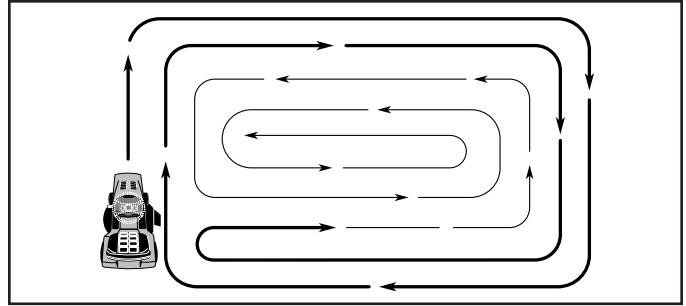

FIG. 20
- When mowing large areas, start by turning to the right so that clippings will discharge away from shrubs, fences, driveways, etc. After one or two rounds, mow in the opposite direction making left hand turns until finished (See Fig. 20).